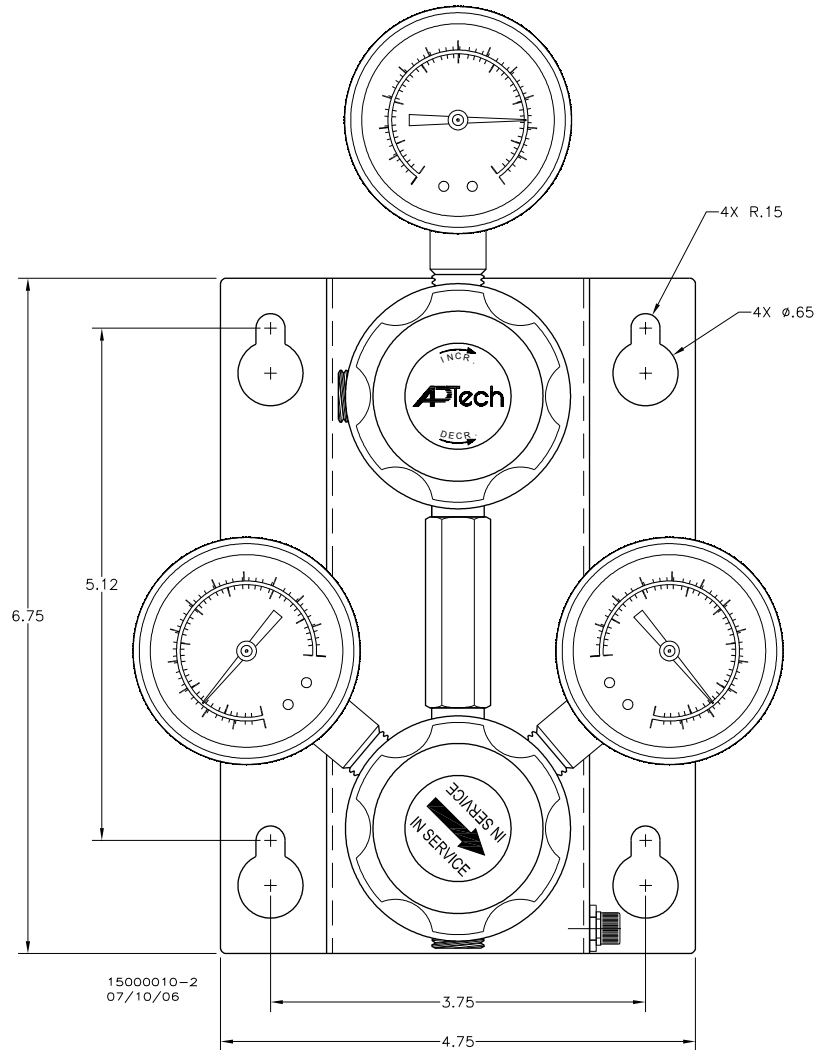

Figure 2. AK M80 Crossover Manifold Mounting Hole Pattern
- Install anchors in the wall using the pattern shown on Figure 2 or hold the AK M80 manifold against a wall and mark the location of the mounting holes. Mount the AK M80 manifold directly to the wall and secure with 1/4 inch diameter screws.